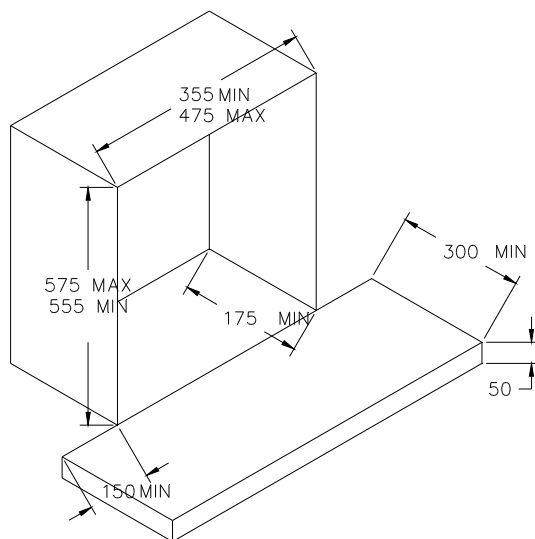

FIGURE 1
- 2 The appliance can be fitted to fire places which meet the dimensional requirements shown in figure 1.